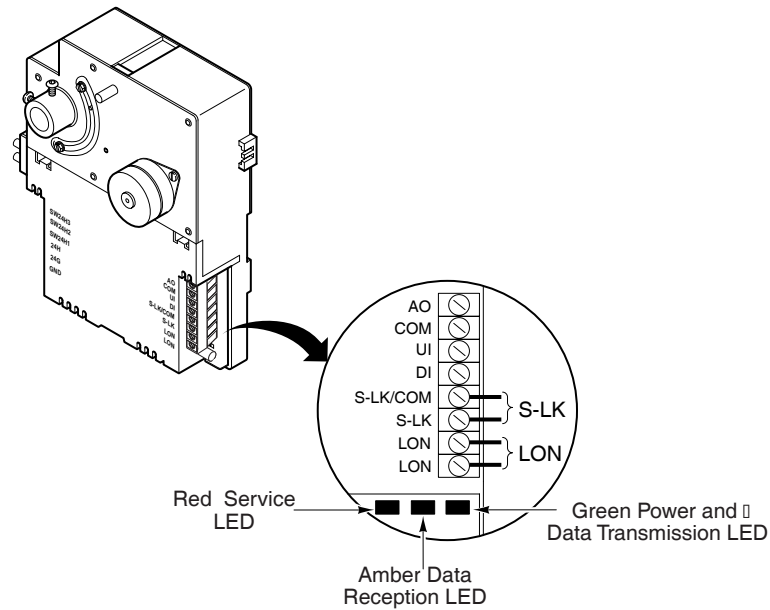

Figure-13 Location of sLON-V1 and sLON-V2 LEDs.
3. Observe green Data Transmission LED (Figure-13) and do the following:
4. Observe red Service LED (Figure-13) and do the following:
5. If connected to a LonWorks network (LON), verify Reception and Transmission LEDs (Figure-13) indicate normal operation. See Table-3.